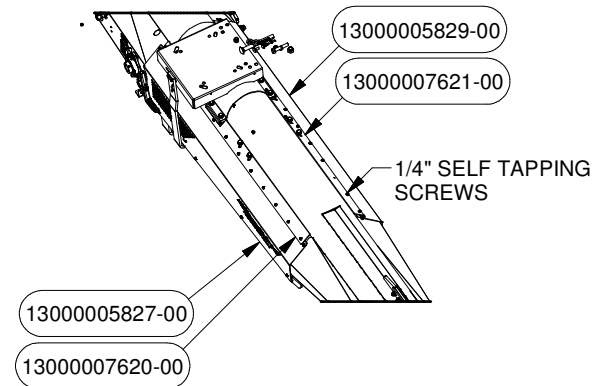

FIGURE 2
2. Place the Covers PN# 5827 and PN# 5829 with the Rubbers PN# 7620 and PN# 7621 (from Hardware Box PN# 7782 or 7624) to the Intake using Self Tapping Screws and washers as shown in Figure 2. Fasteners can be found in Bolt Bag PN# 6068 in Hardware Box PN# 6913.